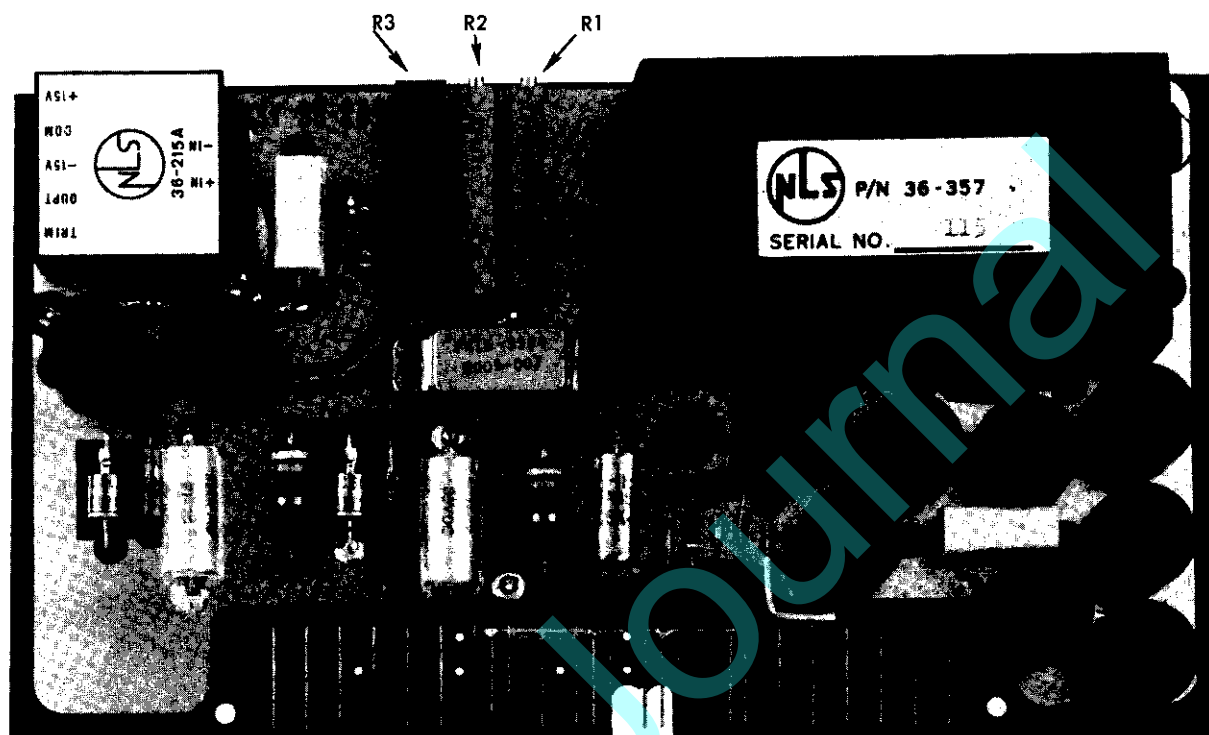

Figure 3-4. Precision Pre-amplifier Assembly Adjustment Points
7. Apply approximately 95.00 millivolts and adjust R1 of the Ohms Converter/Pre-amplifier assembly (Figure 3-4) until the numerical value displayed in the readout is equal to the voltage of the voltage standard.